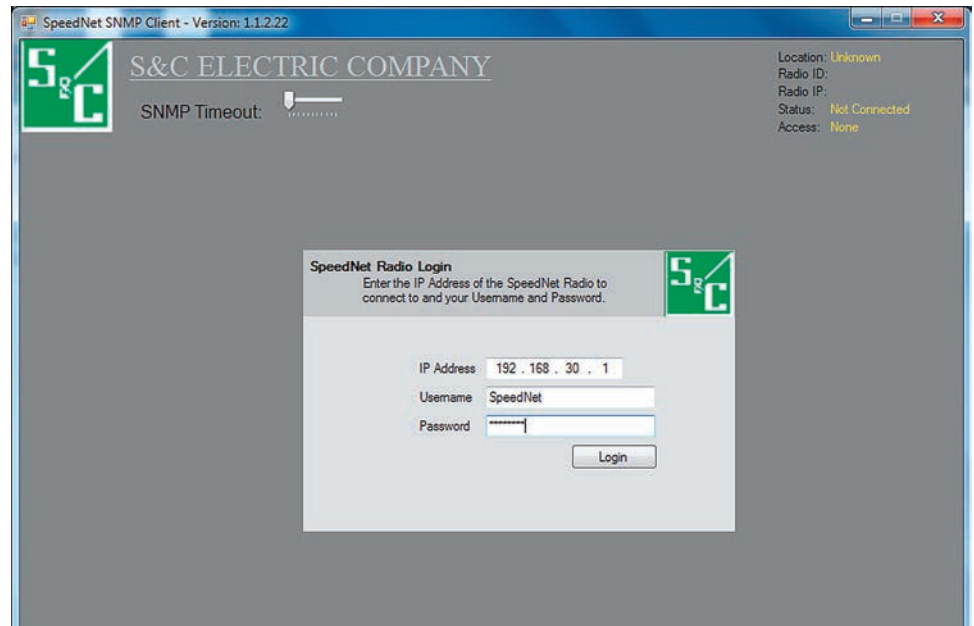

Figure 25. SpeedNet Radio login dialog box.
STEP 9. Open the Client Tool (see Figure 25) and enter: